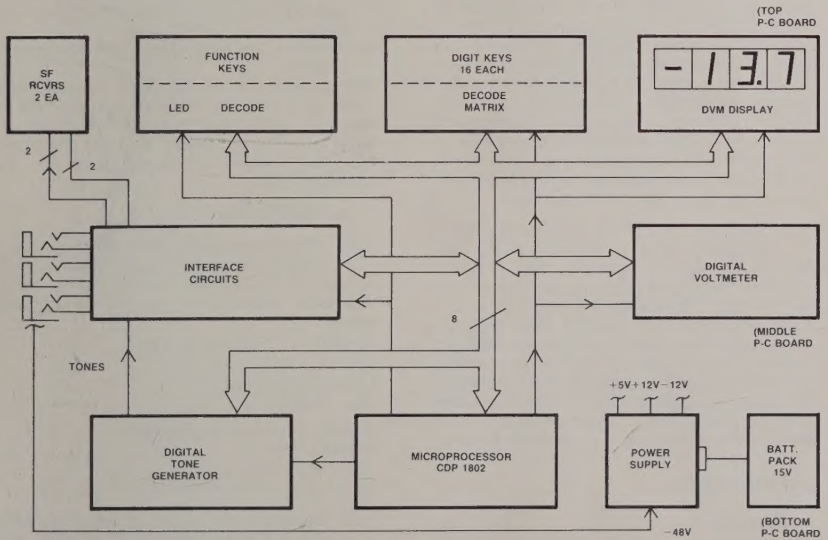

Figure 6. Block Diagram of the 314A Trunk Test Set
4.02 The block diagram is laid out in three levels, each level corresponding to a P-C board of the 314A. Figure 6 shows the block diagram of the 314A.